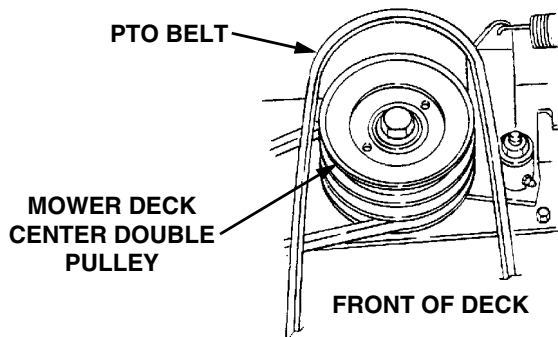

Figure 38
16. Install the rearward end of the PTO belt on the upper pulley of the deck center double-pulley (Refer to Figure 38). Ensure that the narrow side of the belt engages the groove of the upper pulley, and that there is no more than a 1/4 twist in the belt between the front pulleys and the double pulley.